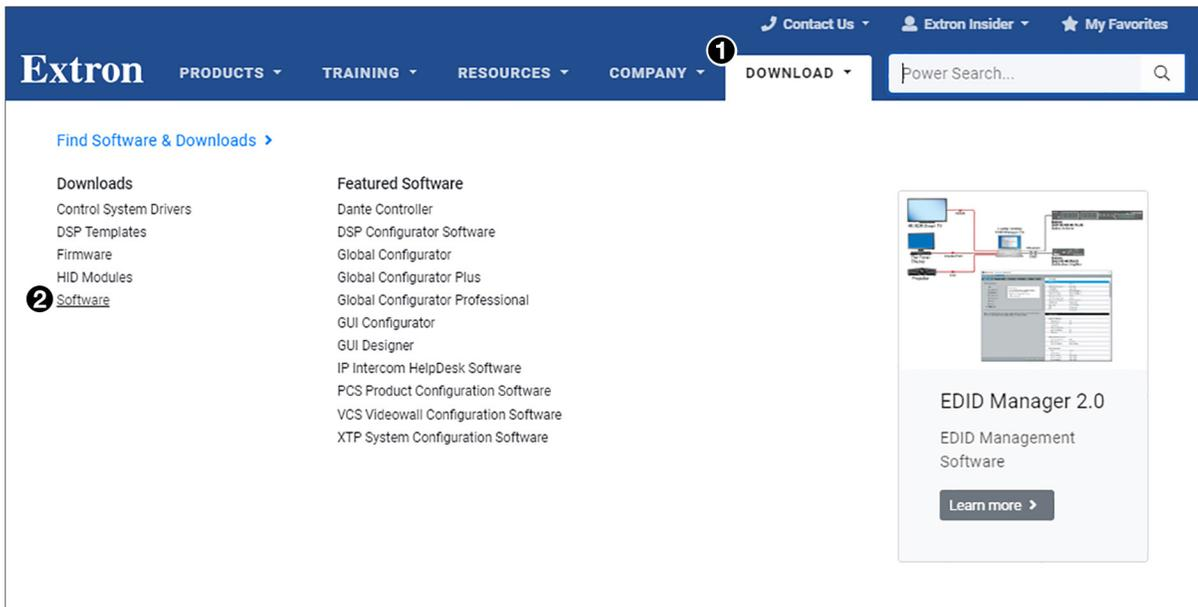

Figure 37. Download Center Page on the Extron Website
1. On the Extron website, select the **Download** tab (see figure 37, **1**).
2. Move the pointer to the **Software** link (see figure 37, **2**, on the previous page) in the Downloads column and click it.